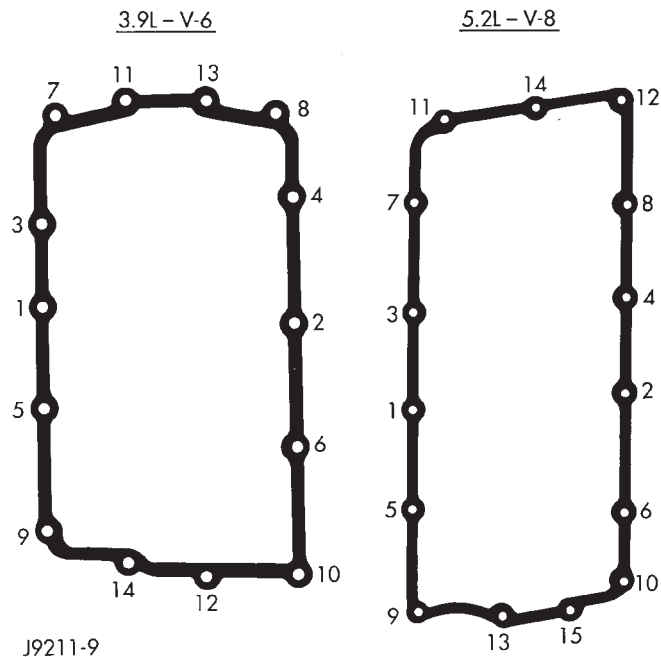

Fig. 8 Plenum Pan Bolt Tightening Sequence
- (1) Install the plenum pan, if removed, as follows:
- (d) Tighten the bolts, in sequence (Fig. 8), as follows: